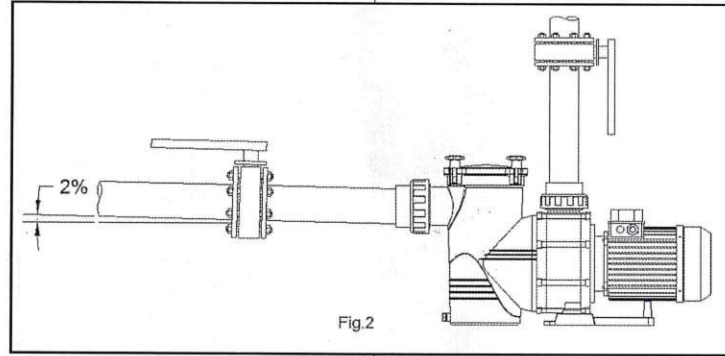

Fig.2
- ! The connection of the pipe must be threaded into the mouths of the pump using the right accessories (Fig. 2).
- Impulsion tube installation is done totally perpendicularly and is well centred with respect to the nozzle to be connected so as to avoid external pressure being exerted on the pump and the tube. Apart from making assembly more difficult, this pressure could even break them. (Fig. 2)
- Suction tube installation is done at a slight angle of 2 % towards the pump, thus avoided siphon formation. (Fig.2).